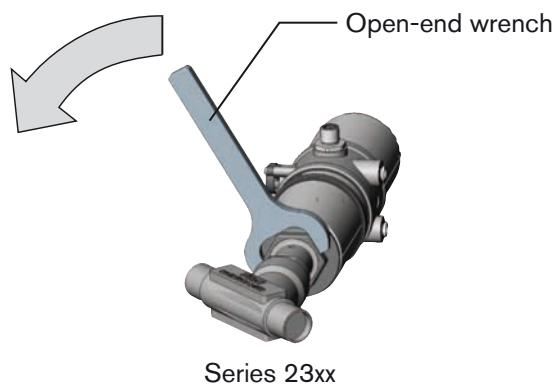

Figure 18: Rotating open-end wrench
- Rotate the actuator module counter-clockwise only (see “Figure 18”)!